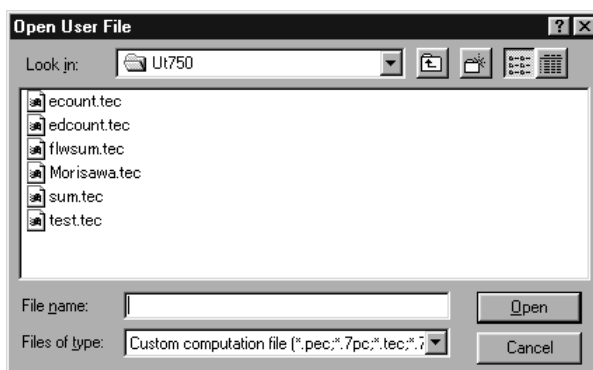

Figure 4.1.7 [Open User File] Dialog Box
- (3) If you are configuring a custom computation using a user file, choose <Open User File>. Click the <Open User File> option button, and then the <OK> button. The [Open User File] dialog box (Figure 4.1.7) appears.
In the [New/Modification] dialog box, click the <Open User File> button, and then the <OK> button. The [Open User File] dialog box (Figure 4.1.7) appears.